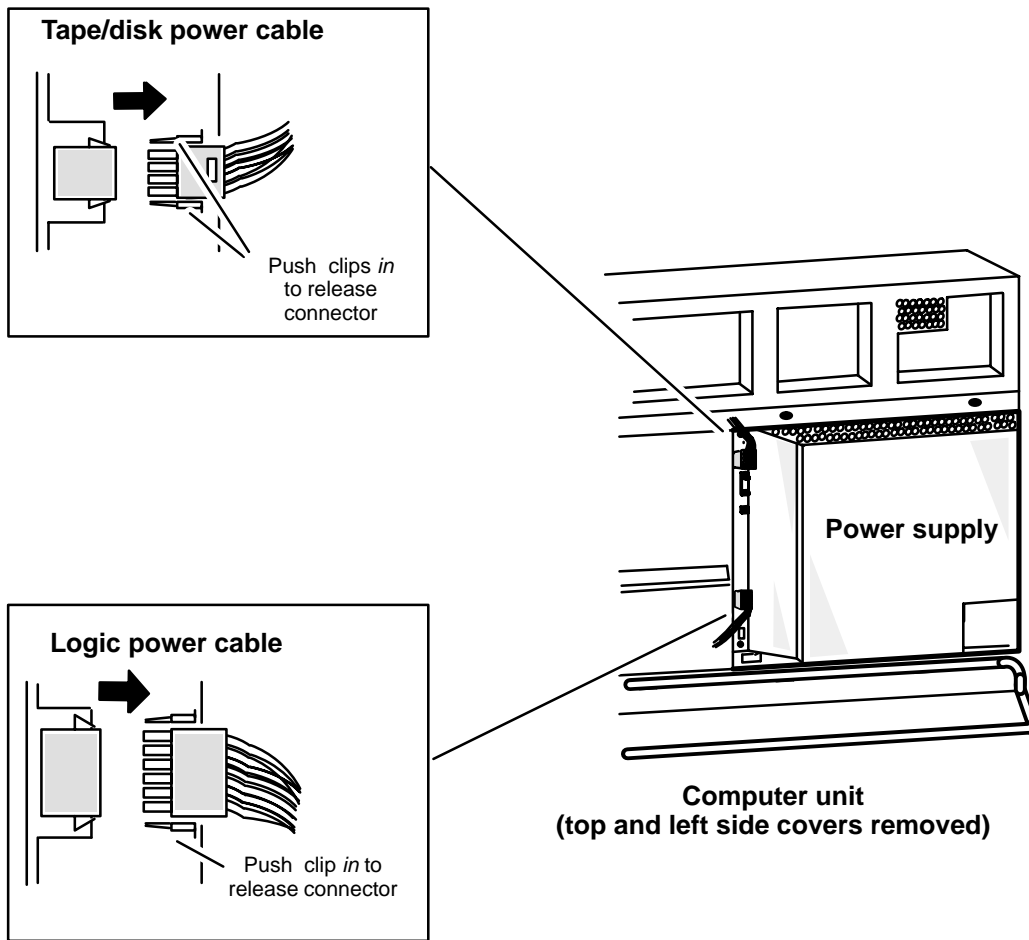

Figure 12-2 Unplugging the Tape/Disk Power and Logic Power Cables
2. Unplug the tape/disk power and logic power cables from the power supply as shown in Figure 12-2.